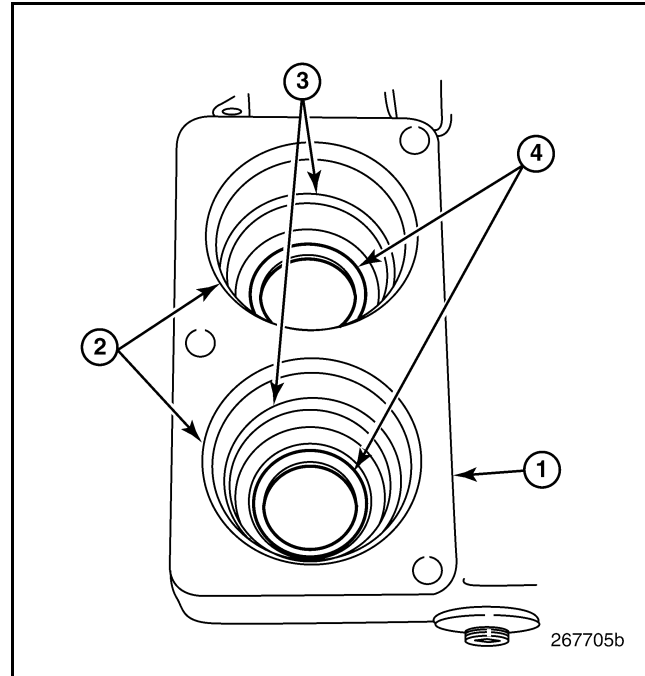

Figure 420 — Wear Rings Installed
- Check to see that the stainless steel wear rings/shields are properly installed in the thermostat housing (Figure 420).